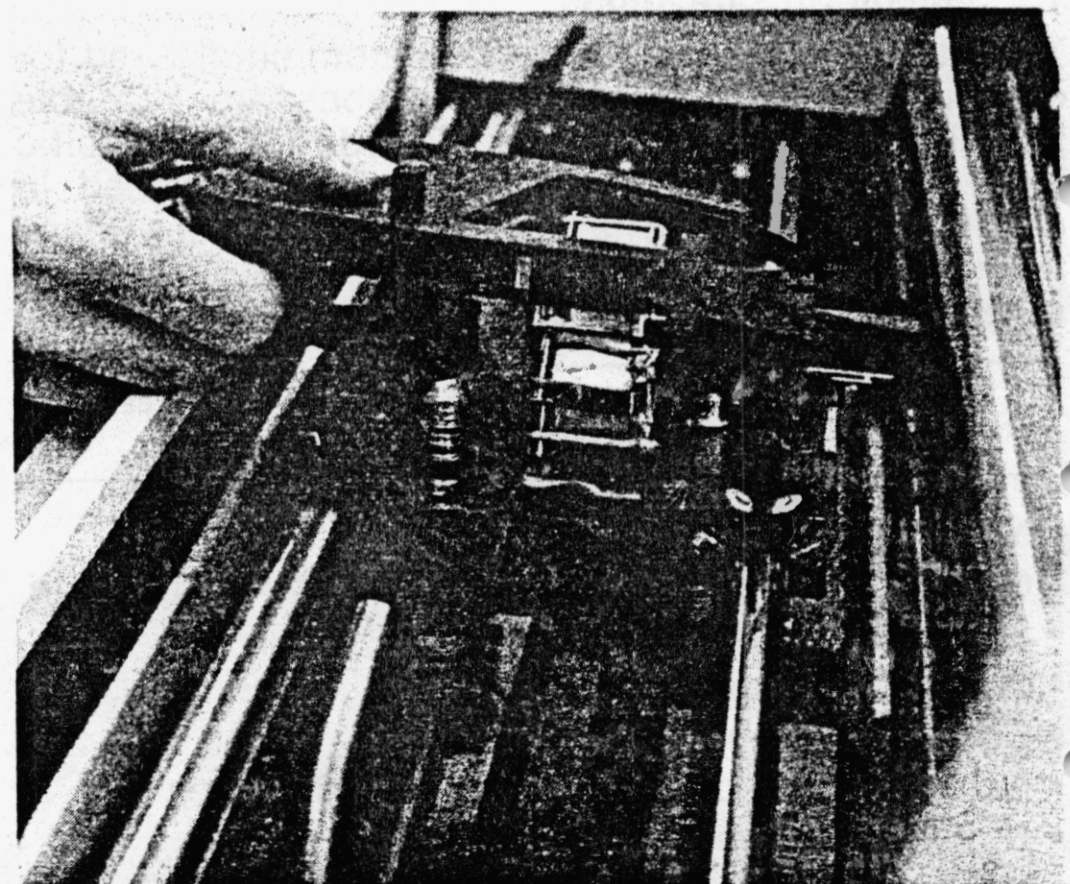

FIGURE 2-3
3. Thread the ribbon around the print-head and place the ribbon cartridge in the cartridge holder, gently pressing downward until it snaps into place. A brass post on either side of the forward edge of the carriage will insert into holes in the bottom of the ribbon cartridge holding it rigidly in place. A ribbon is shown being installed in FIG. 2.3.
2. Gently press downward on the two tabs located on either side of the ribbon cartridge (FIG. 2.3) allowing the cartridge to pop up slightly.